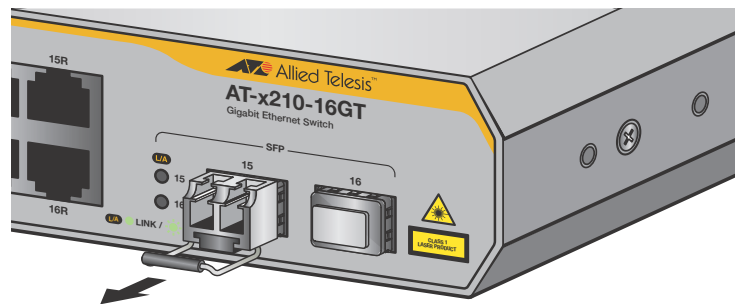

Figure 31. Ejecting an SFP transceiver after lowering the SFP Handle to the Downwards Position
7. Eject SFP transceivers, as shown in Figure 31. First lower the SFP Transceiver Handle, then gently remove the SFP Transceiver.